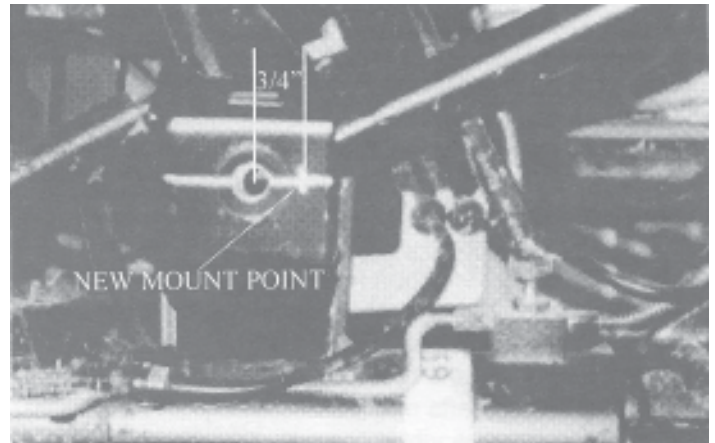

Fig. 4
- 3. Move the axle track bar mount hole over 3/4" to the PASS side of the vehicle as shown in **Fig. 4**.